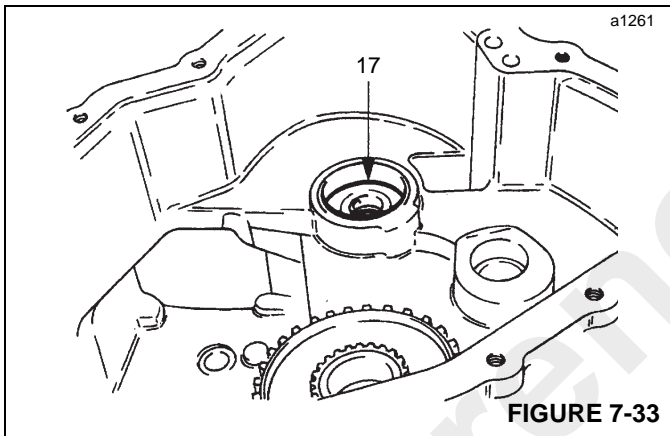

FIGURE 7-33
17. Separate two halves of casing and add or subtract shims (17, Figure 7-33) installed beneath the bearing outer race (in the rear casing) in order to correct reverser shaft end play.